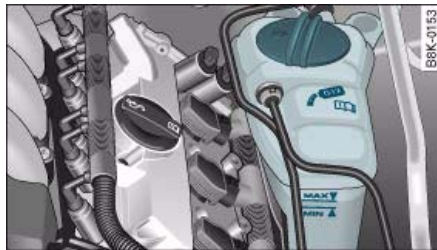

Fig. 227 Engine compartment: Markings on radiator expansion tank
- Read off coolant level on radiator expansion tank ⇒ fig. 227. When the engine is cold it should be between the "MIN" and "MAX" marks. When the engine is hot it may be slightly above the "MAX" mark.
- Cover the cap on the expansion tank ⇒ fig. 227 with a cloth, and **carefully** unscrew the cap anti-clockwise ⇒ ⚠.